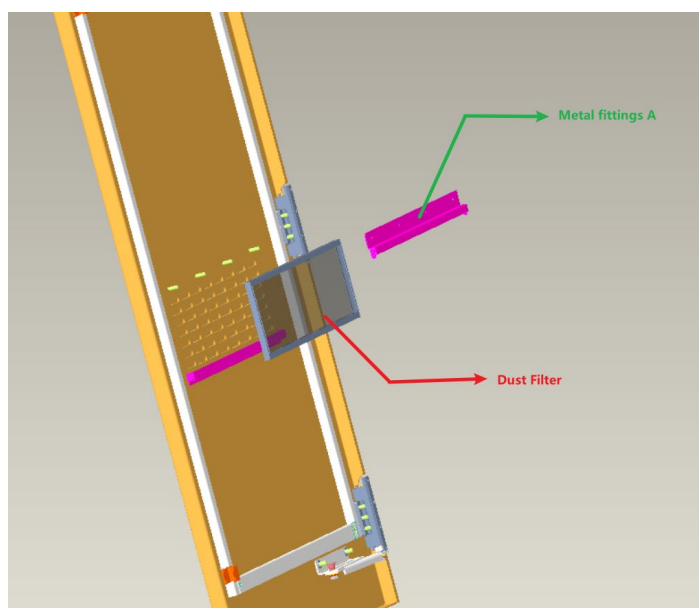

Figure 4-1 Schematic diagram of replacing dust-proof cotton in DC&AC LV Panel
3. Open the front and rear four door panels inside the DC&AC LV Panel, remove the fixed parts of the Dust-proof cotton A on the inner side of the door panels, and then remove the Dust-proof cotton for cleaning and replacement. After completion, install the Dust-proof cotton on the door panel and fix it with the removed structural components **(The dustproof cotton can be replaced according to the situation if it has been in operation for 3~5 years)**, as shown in Figure 4-1;